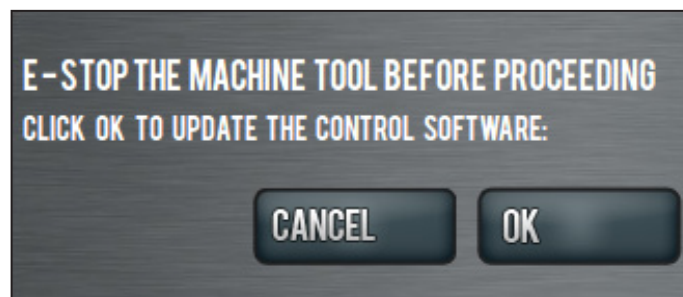

Figure 8
6. Push red E-stop button when prompted; click *OK* (see **Figure 8**).